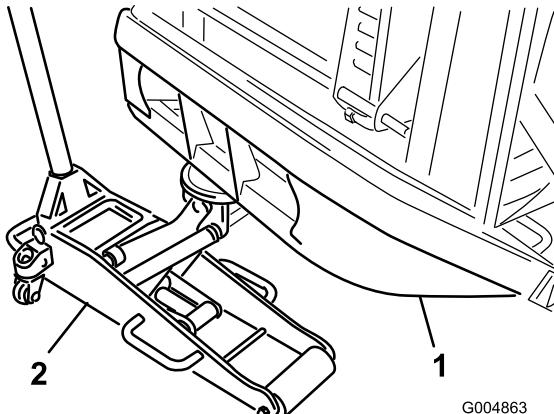

Figure 32
- Position a suitable floor jack under the rear bumper tube and raise the rear tires off of the ground (Figure 32).